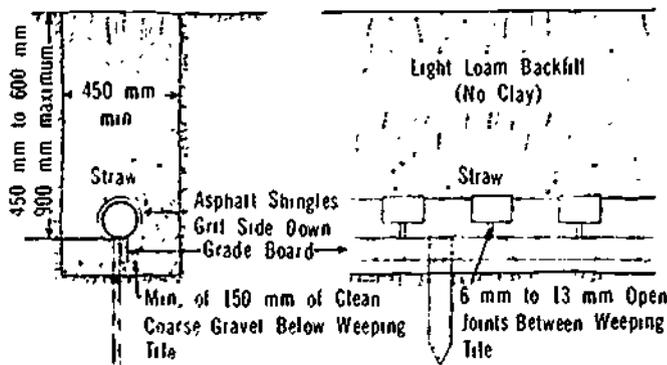

Figure 24-8. Cross-Sectional View of Trench
d) The required information includes the proper length of weeping tile for the disposal field for the number of people normally using the system. The pattern for the layout of the tile, the trench details, and the desirability of using a distribution box must also be determined. A design for a trench is shown in Figure 24-8. Note the rectangular shape of the cross-section of the excavation, also the grade board and the supporting stakes for maintaining the proper levels for the tile, and the locator. and material for the various kinds of fill.